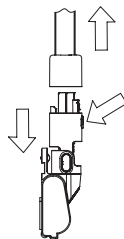

Рис.3
- Select the required attachment: motorized turbo brush with LED illumination (7) or crevice nozzle (12) and connect it to the extension pipe (5) (fig. 3).